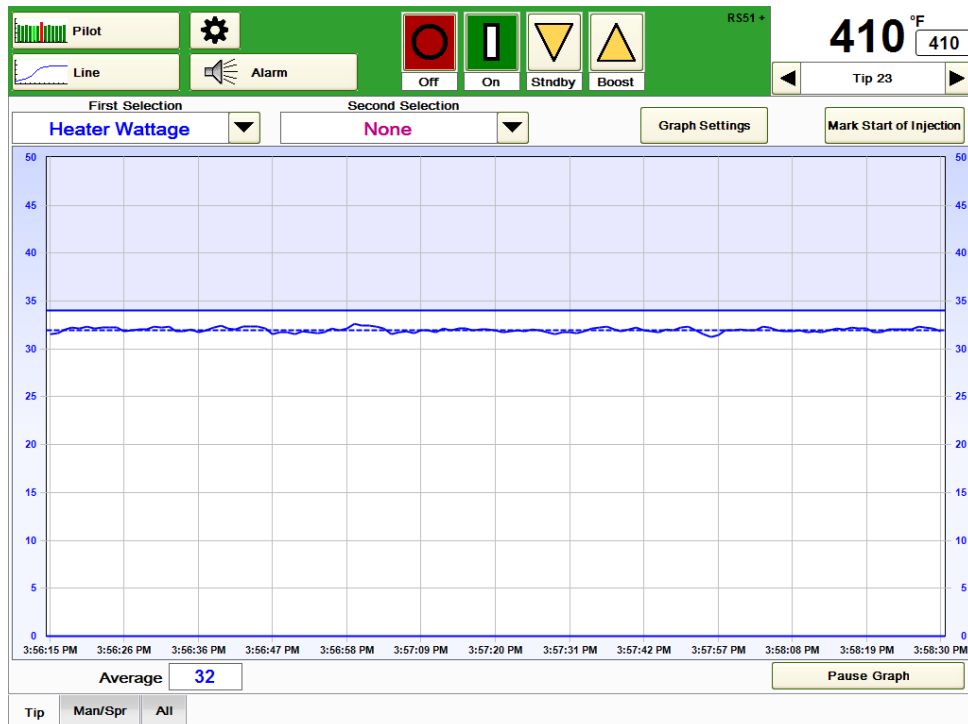

Figure 20c Line Graph (displaying Wattage with User Defined scale)
- 3) Touch the **Enable Watt Alarm** box to activate watt alarm monitoring. When Heater Watt Monitor is enabled, the Line Graph can be used to show the alarm value as a solid line and the area where the alarm will activate (shaded blue in Figure 20c because Heater Wattage is the First Selection) when Heater Wattage is viewed. It may be